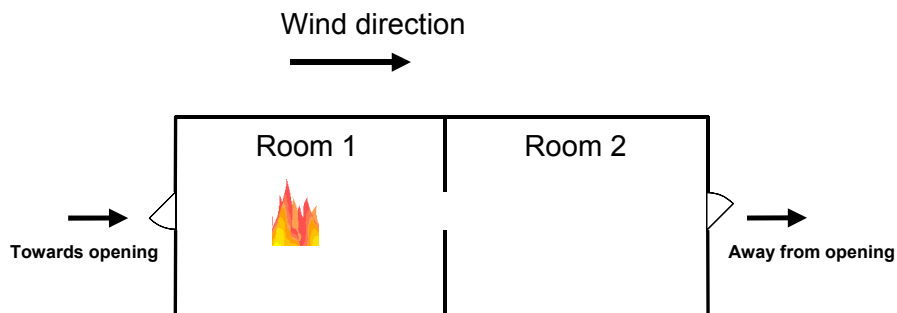

Figure 3.15: Wind towards the opening forces smoke to the next room.
3. The *Wind speed* option allows you to enter a figure for the wind speed. The default value for wind speed is 0 m/s, and a typical value to enter is 5 m/s. The wind speed can affect smoke spread and smoke venting. Please refer to figures 3.15 and 3.16.
How does wind affect a simulation? In figure 3.15, wind passing through a fire room can lead to increased smoke spread to adjacent rooms, especially if no smoke layer is formed. This means that the smoke is cold and will not move by itself. So here wind will worsen smoke spread. The simulation is more reliable when a wind speed other than zero is chosen.